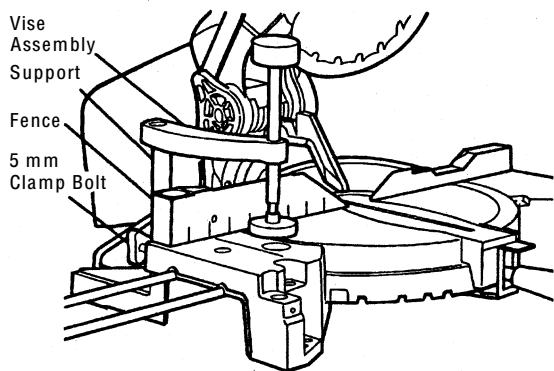

Fig. 19
(2) The vise assembly can be mounted on either the left side fence or the right side fence, and can be raised or lowered according to the height of the workpiece.
① Insert support of vise assembly into the hole located on either the left side fence or the right side fence.
② Then tighten 5 mm clamp bolt as shown in Fig. 19.